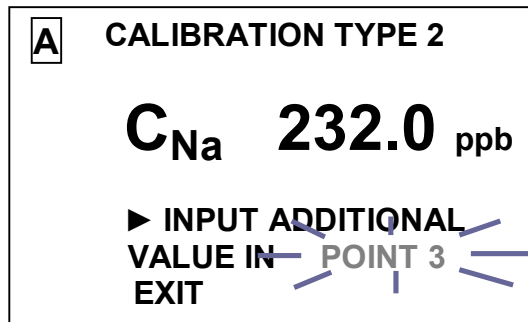

Fig. 2.32
29 Move pointer "▶" to **EXIT** line and press "menu **enter**" button. The display shown in Fig. 2.32 shall come up.
- 30 Enter  $C_{Na}^{cal2}$  value calculated from the formula on the display as shown in Fig. 2.32.